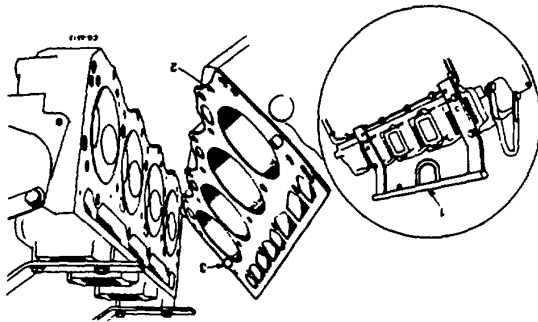

Figure 46. Installing Cylinder Head
- b. Using lifting sling SE-1896, place one cylinder head in the proper cylinder bank. Align head with dowel sleeves in crankcase. Loosely install all cylinder head bolts (Figure 46).